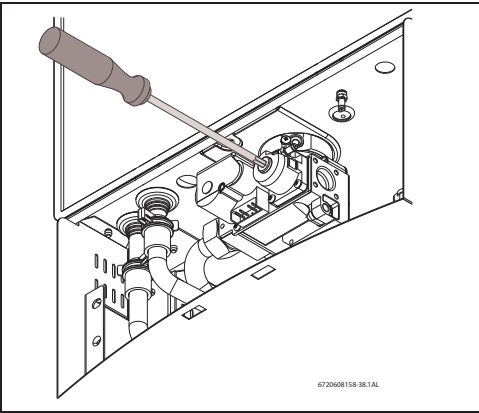

Fig. 46 Adjusting P2 CO2 level
- Reinstall Torx protection cover, Fig. 46.